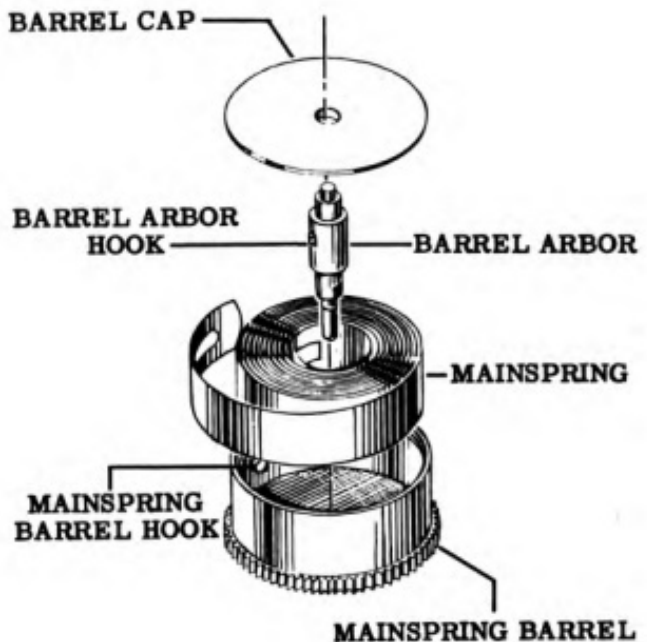

Figure 65
15. Wind the mainspring into the barrel using the special mainspring winder, Tool No. 9A. Oil the mainspring. See the Control Manual. For the proper positions of the barrel components, see Fig. 65.